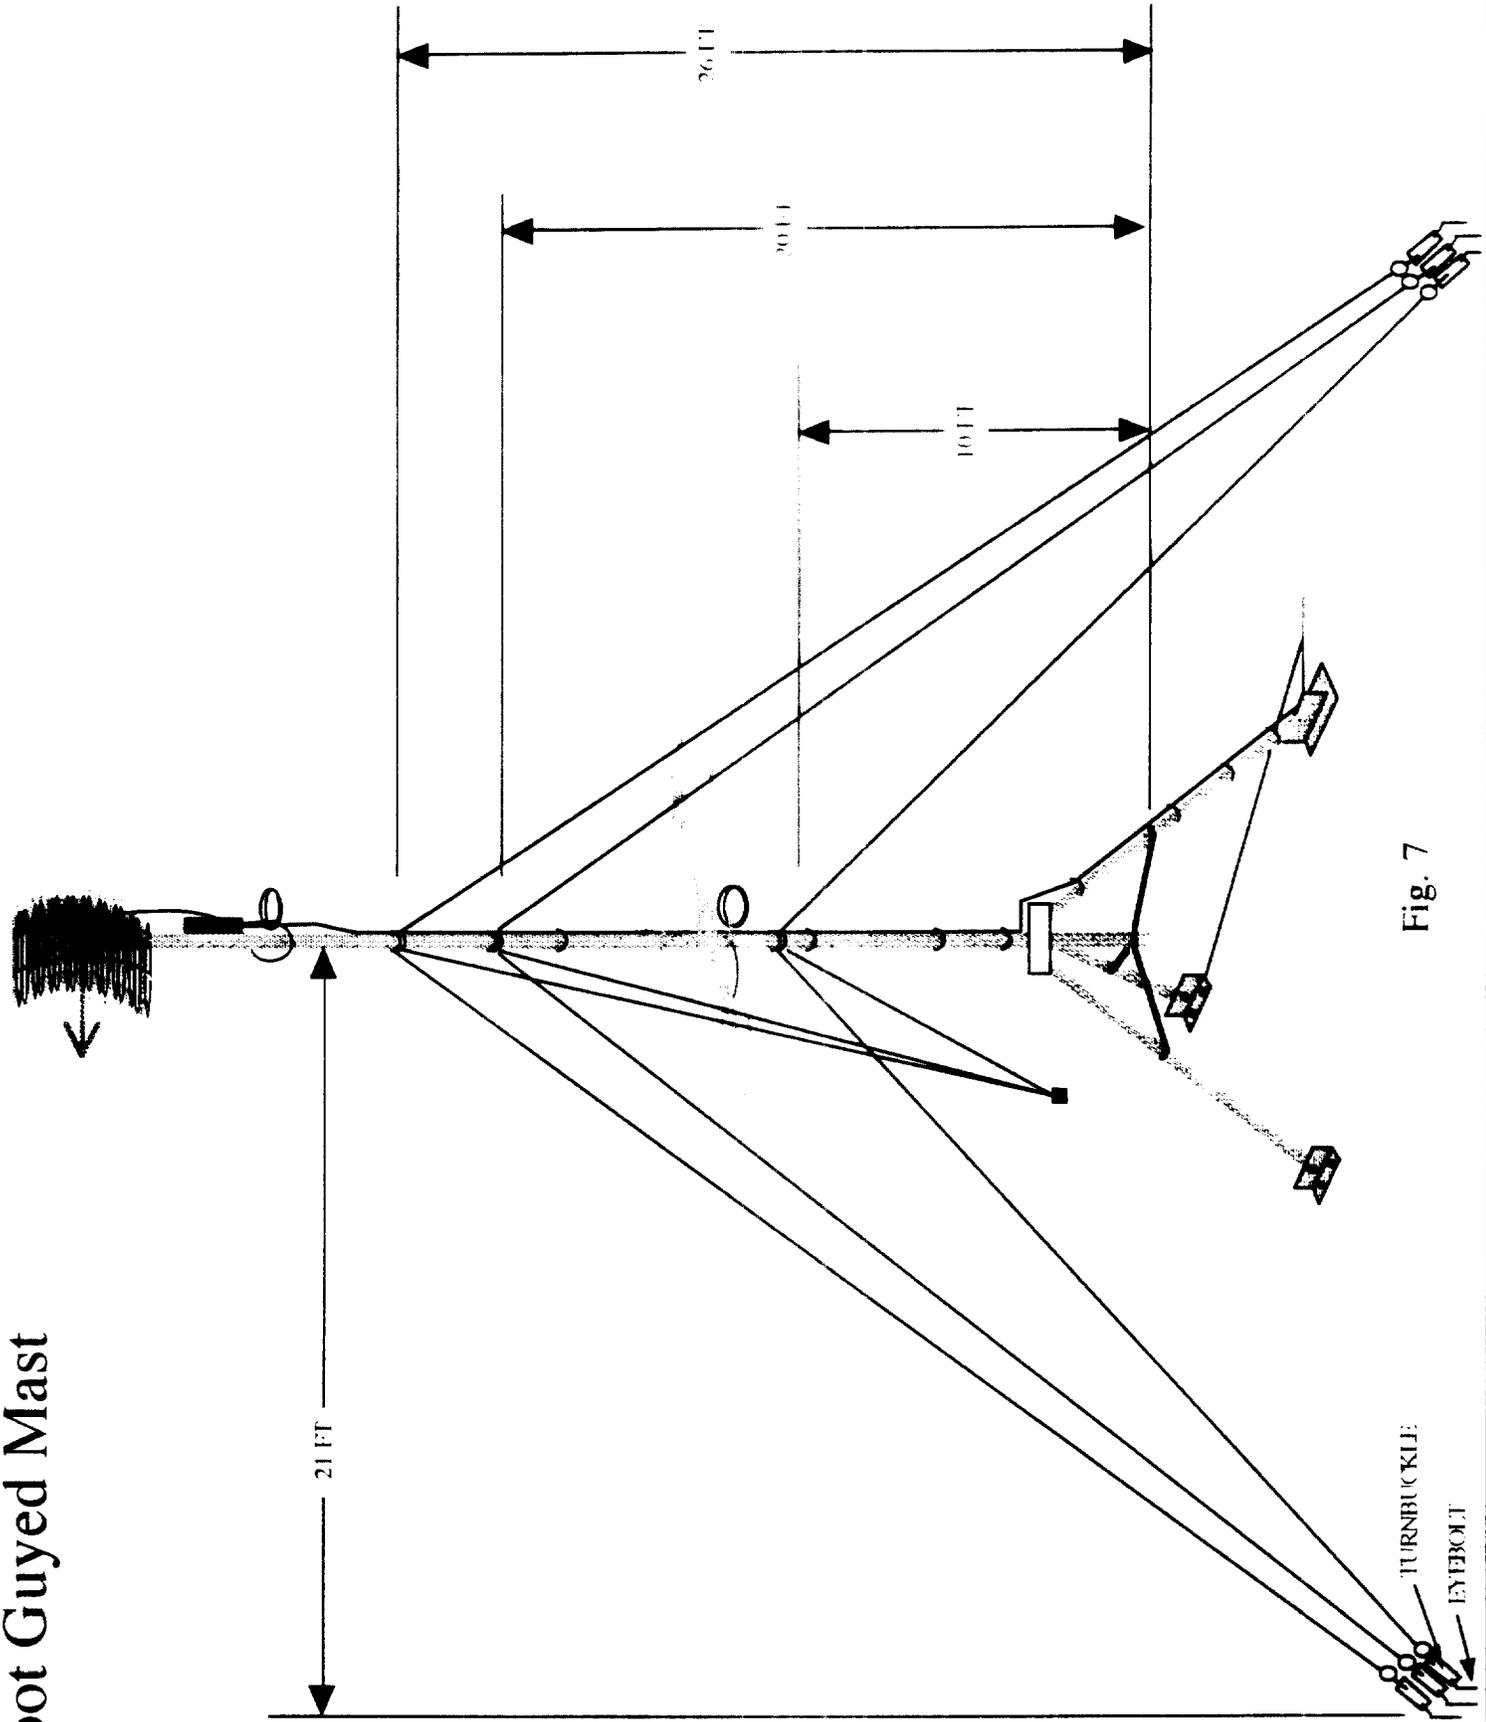

Fig. 7
- A 5 foot tripod and a 30 foot mast requires 3 sets of 3 guy wires each. The guy wires are positioned on the mast at the 10, 20, and 26 foot levels. The ram hooks are placed in the roof a minimum of 21 feet out from the center of the tripod. The turnbuckles are attached in the same manner as on a 20 foot mast (See Figure 7).